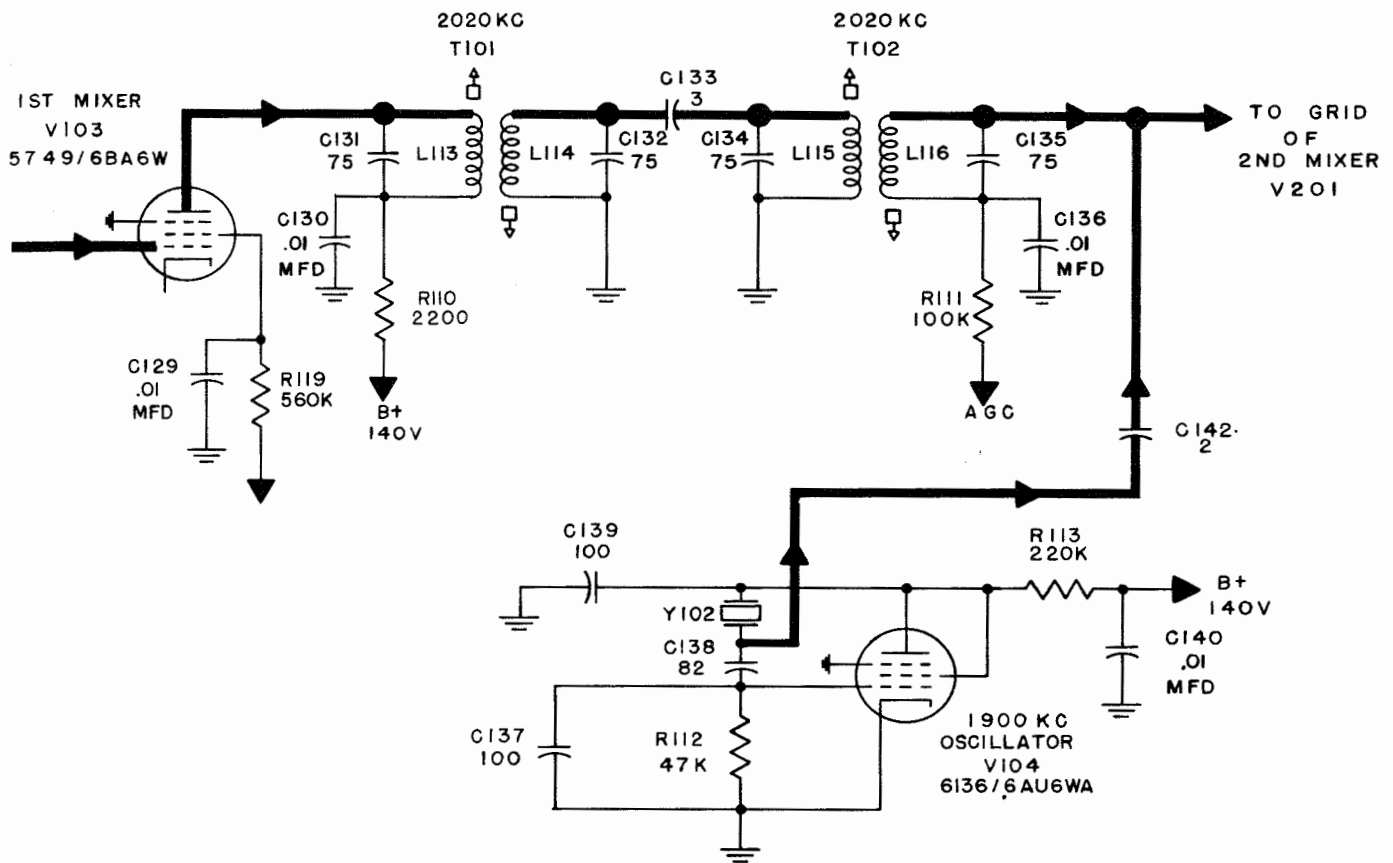

Figure 2-8. Simplified Schematic—2020 Kc and 1900 Kc Oscillator
(5) 2020 KC IF CIRCUITS.—This IF is shown in figure 2-8, and as can be seen, does not utilize any tube
(6) 1900 KC OSCILLATOR.—This oscillator shown in figure 2-8 is designed to operate only with a 1900 Kc crystal. This crystal is a non-temperature controlled type CR-18/U and is supplied with the receiver. It does not change when the receiver is tuned to a new channel frequency. The oscillator uses a pentode type